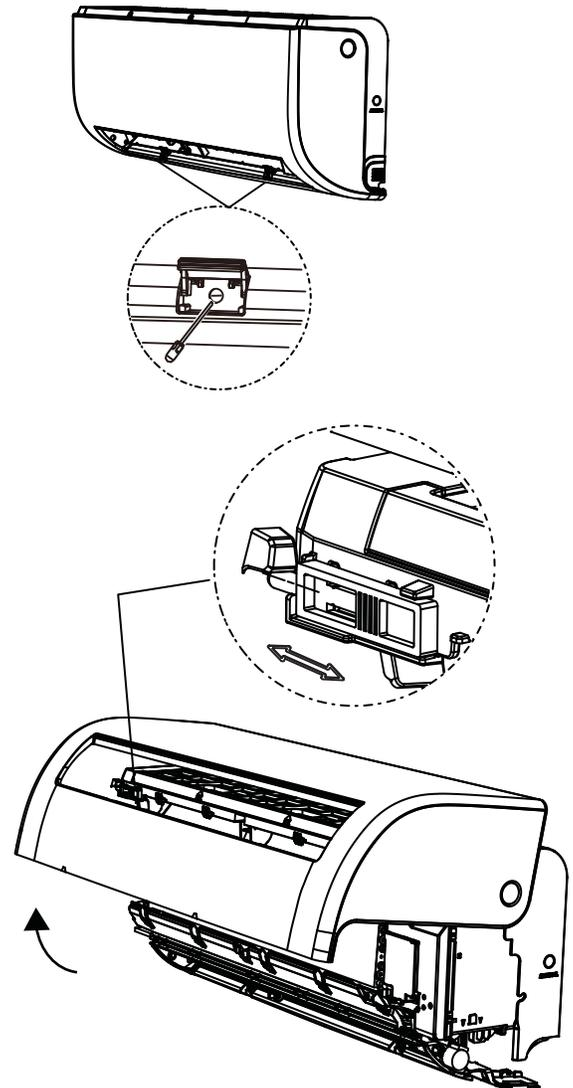

Fig. 14 – Panel Position
- (2.) Open and fix the position of the panel. First, unscrew the two screws (see Fig. 14), then open the panel, and fix the position of the panel by the latch.